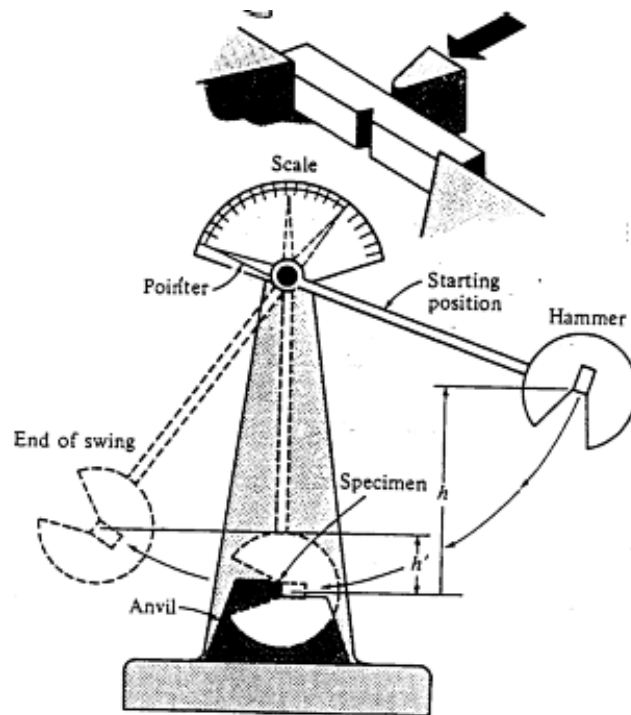

Figure 2 – Charpy v-notch test apparatus
- b. Toughness can also be measured from a Charpy v-notch test. This is a test that measures the energy absorbed by a material when fractured by a sudden impact. Figure 2 shows a typical apparatus set-up for the test.